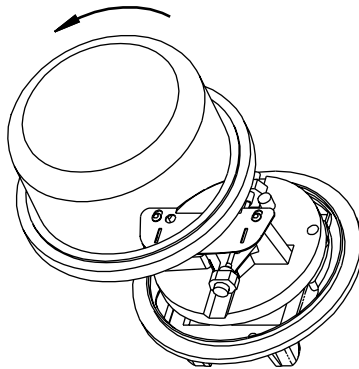

Figure 25. Removing Cover
1. Unscrew the cover on the meter in a counter-clockwise direction. See Figure 25.